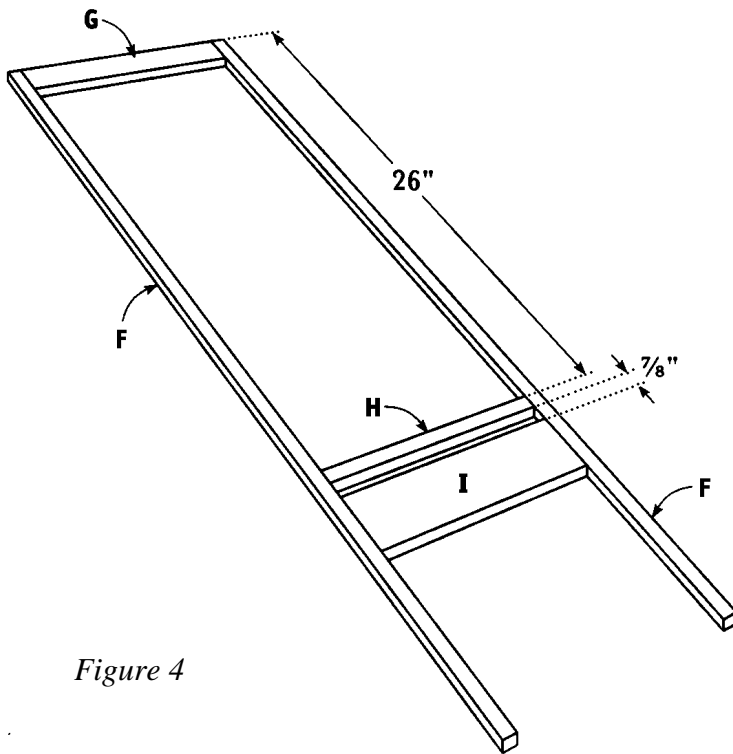

Figure 4
5. Cut one Middle Front (H) from 1 x 1 pine, measuring 12 inches.
6. Fit the Middle Front (H) between the two Vertical Fronts (F), 26 inches below the Upper Front (G), as shown in *Figure 4*. Apply glue to the meeting surfaces, and nail through the Vertical Fronts (F) into the ends of the Middle Front (H), using one 2-inch nail on each joint.
7. Cut one Lower Front (I) from 1 x 4 pine, measuring 12 inches.
8. Fit the Lower Front (I) between the two Vertical Fronts (F), 7/8-inch below the Middle Front (H). Apply glue to the meeting surfaces, and nail through the Vertical Fronts (F) into the ends of the Lower Front (I), using two 2-inch nails on each joint.
9. Fit the assembled front between the two assembled sides. Nail through the sides into the edges of the Vertical Fronts (F), using 1-1/2" nails spaced about every 5 inches.